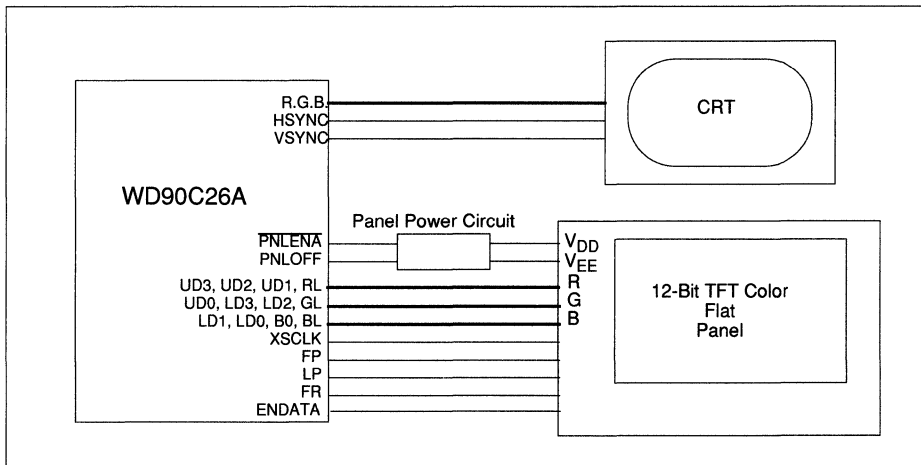

FIGURE 6-24 12-BIT COLOR LCD PANEL INTERFACE
- 12-Bit Color LCD Panel Interface (Figure 6-24)